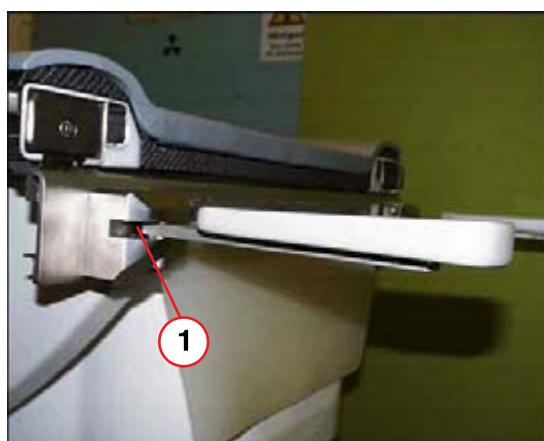

Fig. 9: Elbow supports
- The two elbow supports (1/Fig. 9 / p. 25) must not fold out when the unit is tilted upright into the 90° position. If the spring tension is not sufficient, washers must be inserted. The specified spring tension is approx. 20 N.